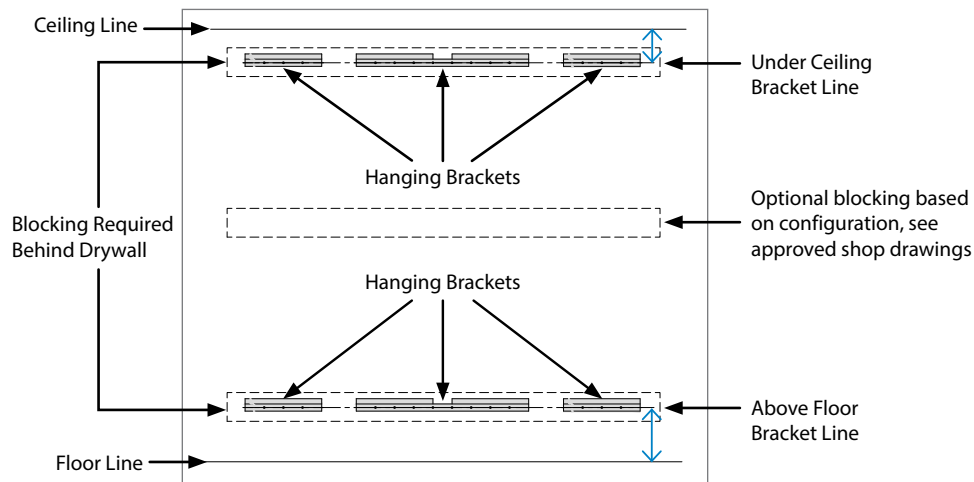

Figure 1
1. Mark two horizontal lines to locate drilling for mounting of hanging bracket on the wall (**Figure 1**):